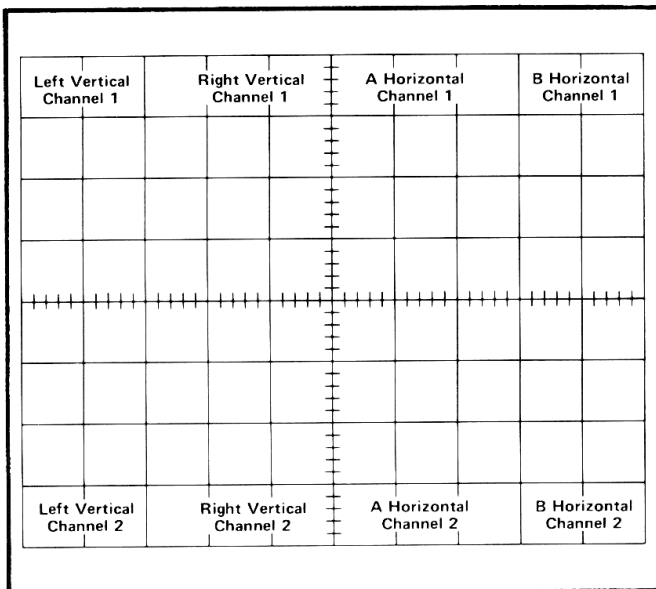

Fig. 3-36. Location of readout words on the CRT identifying the originating plug-in and channel (one complete frame shown).
**Frame**—A frame is a display of all words for a given operating mode and plug-in combination. Up to eight words can be displayed in one frame. Fig. 3-36 shows one complete frame and the position at which each of the eight words is displayed.
**Display Format.** Up to eight words of readout information can be displayed on the Type 7504 CRT. The position of each word is fixed and is directly related to the plug-in unit from which it originated. Fig. 3-36 shows the area of the graticule where the readout from each plug-in unit is displayed. Notice that channel 1 of each plug-in unit is displayed within the top division of the CRT and channel 2 is displayed directly below within the bottom division. Fig. 3-38 shows a typical display where only channel 1 of the Right Vertical unit and the B Horizontal unit are selected for display.
The Format Generator stage provides the output signals to the vertical and horizontal deflection systems of the instrument to produce the character display. The binary channel address code from the Channel Counter stage is connected to this stage so that the display from each channel is positioned to the area of the CRT which is associated with the plug-in and channel originating the word (see Fig. 3-36). The positioning current or decimal point location current generated by the Decimal Point Logic and Character Position Counter stage is added to the horizontal (X) signal at the input to the Format Generator stage to provide horizontal positioning of the characters within each word. The X- and Y-output signals are connected to the Horizontal Amplifier and Vertical Amplifier through the Horizontal Output and Vertical Output stages respectively.